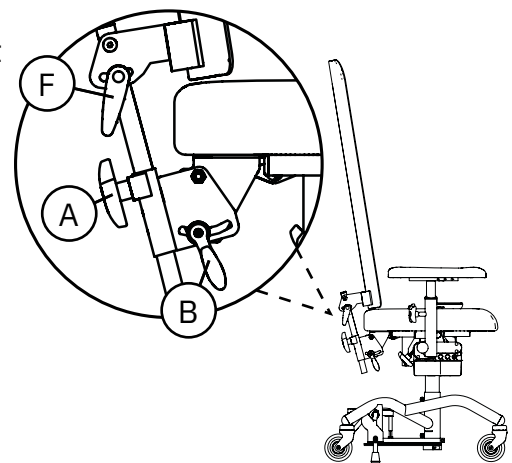

Figure 5.10. High Transparent Back Support.
The Standard X-ray backrest mechanism's back support is adjustable in terms of height (A) and the angle of the backrest mechanism is adjustable (B). The back support angle is also adjustable (F) (see Figure 5.10).